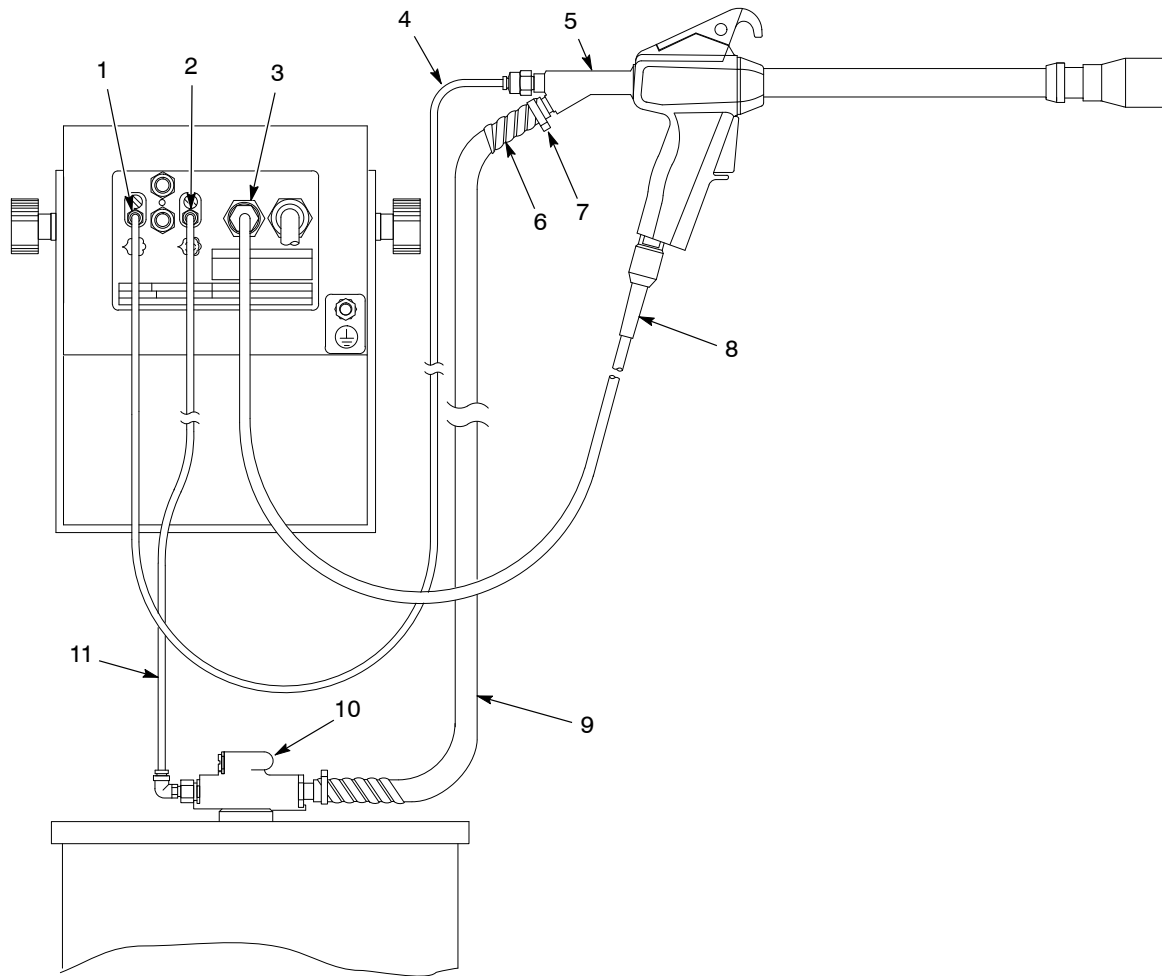

Figure 3 Gun Connections
1. See Figure 3. The gun is shipped with the cable (8) installed. Connect the cable end to the GUN OUTPUT receptacle (3) on the back of the Tribomatic II control unit.
2. Install black 6-mm air tubing (11) between the flow-rate air fitting (2) on the control unit and the fitting on the powder pump (10).
3. Install blue 6-mm air tubing (4) between the diffuser air fitting (1) on the control unit and the diffuser (5).
4. Install 9-mm ($\frac{3}{8}$ -in.) ID powder feed hose (9) between the powder pump and the diffuser. Install a few inches of spiral-cut tubing (6) on the feed hose at the diffuser and pump connection points. Secure the spiral-cut tubing with a clamp (7). The tubing will prevent the hose from kinking and blocking the flow of powder.